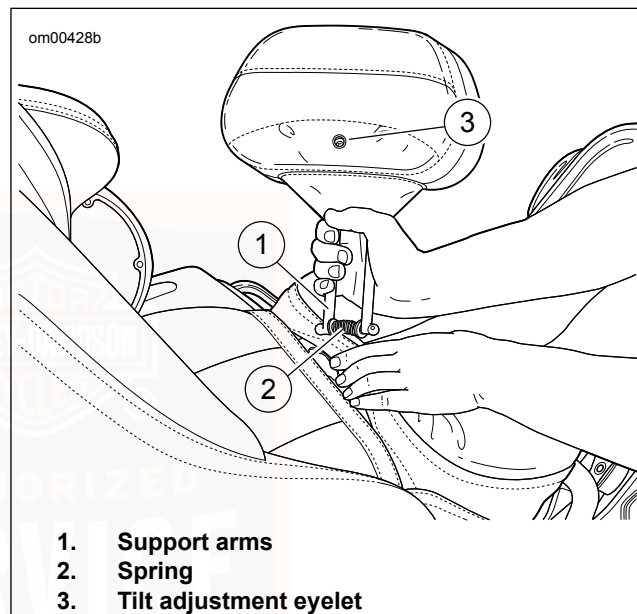

Figure 89. Rider Backrest Installation
2. See Figure 89. Using two hands, squeeze the spring loaded support arms together.
Tilt (Angle) Adjustment: See Figure 89. Locate the set screw behind the eyelet (3) in the back of the backrest. To set an angle that fits the rider, use a 3/16 in. Allen wrench to loosen, adjust and tighten the screw to fix the angle of the backrest.